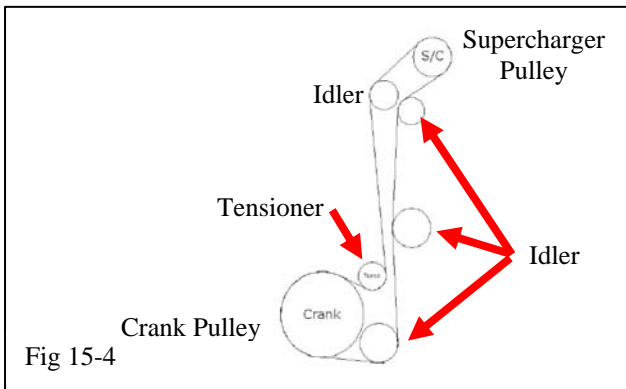

Fig 15-4
- (g) Finish installing the supercharger belt drive making sure the routing is correct (Fig 15-4).